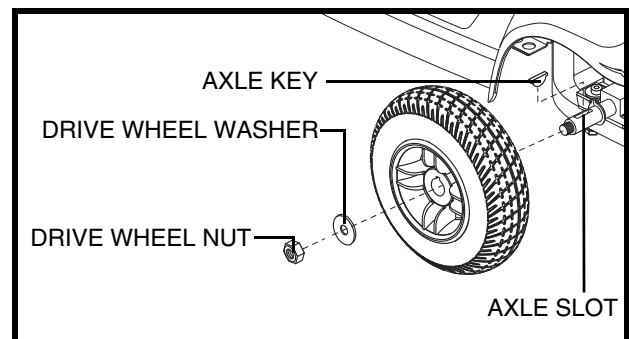

Figure 26. Wheel Replacement
3. Remove the drive wheel nut and washer from the axle. **See figure 26.**